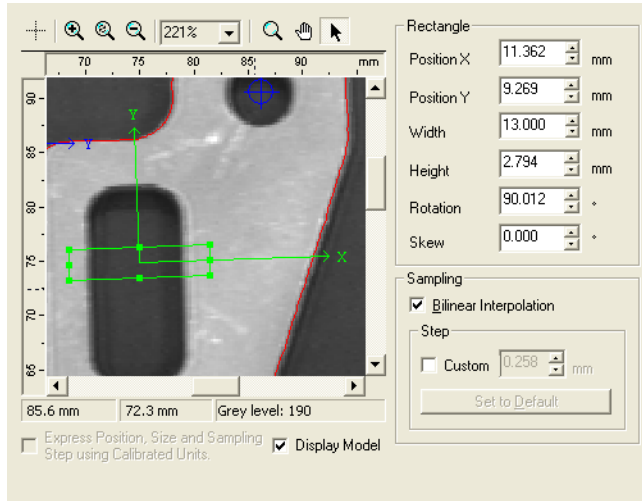

Figure 99 Adjusting the Size, Position and Orientation of the Caliper Rectangle
8. Place the Rectangle on the part as shown in Figure 99.